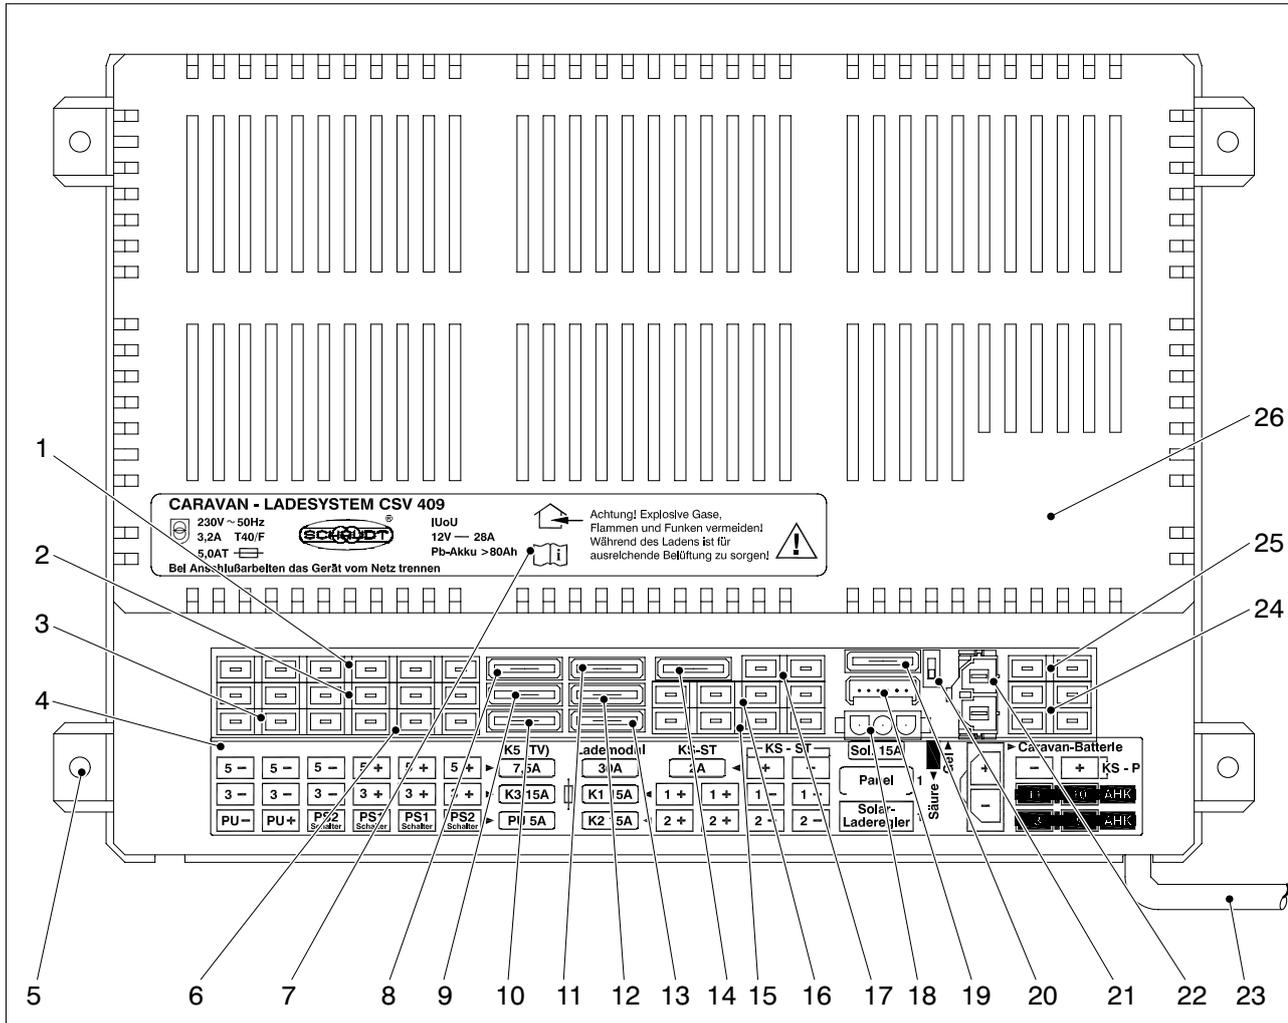

Fig. 2 CSV 409 caravan charging system viewed from front
- You must ensure that the battery selector switch (Fig. 2, Pos. 21) is set to the correct position for the type of battery being used.
- Move the battery selector switch (Fig. 2, Pos. 21) into the relevant position using a thin object (e. g. ball-point pen):